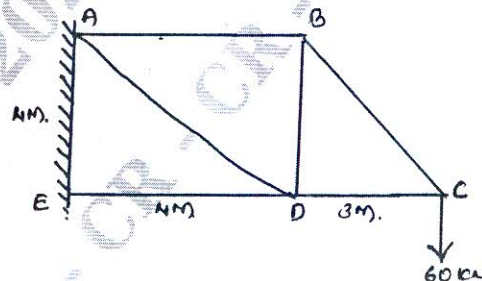

Fig.Q6(b)
b. Determine the vertical deflection at the free end of the truss shown in Fig.Q6(b) using unit load method. The cross sectioned areas of member AD and DE are 1500 mm^2 . While those of other members are 1000 mm^2 . Take $E = 200 \text{ kN/mm}^2$.